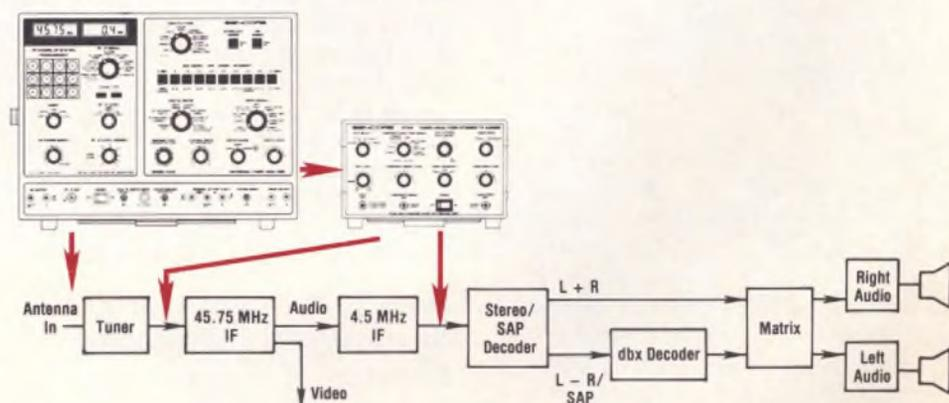

Fig. 5: Check for proper stereo performance from the antenna input to the speakers or substitute signals into any suspected stage.
A quick check of the capstan servo circuit was needed. Connecting the SC61 Waveform Analyzer probe to analyze the CTL pulse resulted in the waveform shown (Figure 5). The pulse proved to be good. A check of the voltages coming into the capstan adder with the SC61's digital meter found it to be near zero volts. The source of this voltage is the capstan phase pulse width modulator, and that signal was changing wildly (Figure 6). This showed that the capstan phase circuit was trying to compensate but, for some reason, could not.
**Fig. 5: Two important capstan servicing waveforms are the CTL pulse (on top trace) and the 30 Hertz reference pulse (bottom trace). The digital meter on the SC61 helps you quickly analyze these important waveforms with a simple press of a button.**
Stereo problems, especially the SAP problems, can easily happen in the RF, coupling, video IF, or the audio IF because these signals are right at the top of the channel (Figure 6). Your ST65 lets you make signal injection into each suspected stage to tie down troubles or prove the circuit works correctly (Figure 5).
that the Stereo TV can produce clean, noise free SAP and stereo programs on weak or strong channels. Reduce the signal input with the RF-IF control to dynamically test for weak/strong signal performance (Figure 5).